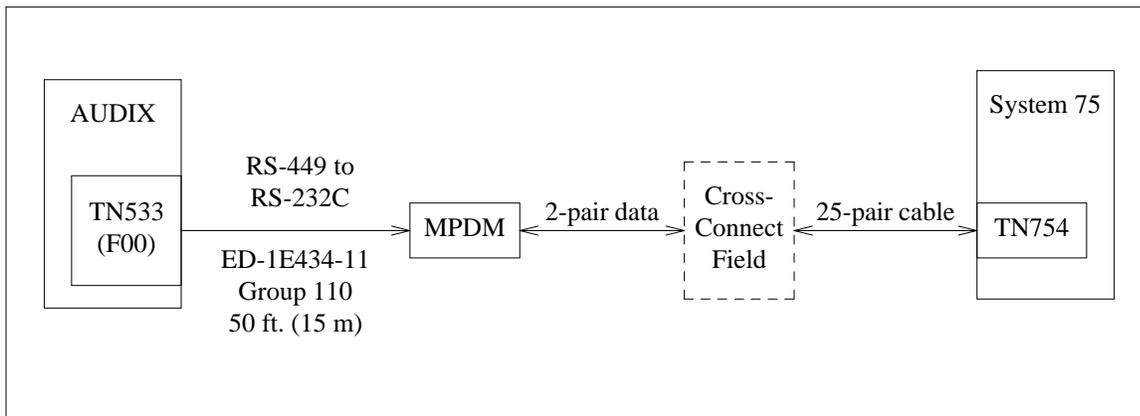
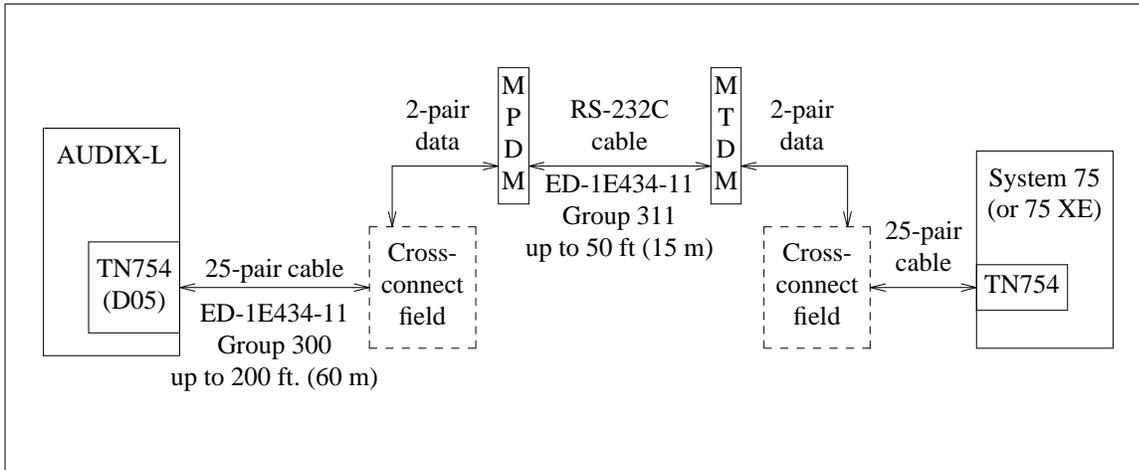

Figure 2: System 75 Data Link (Using MPDM) to AUDIX
Figure 4: System 75 (or 75 XE) Data Link (DCP Port) to AUDIX-L
- Data link connecting an AUDIX to the switch (required for all fully integrated systems). The link varies depending on the type of switch (System 75 or System 75 XE) and AUDIX model used. See figures 2, 3, and 4 for common System 75 and 75 XE setups.
SCI. A one- or two-cabinet AUDIX can connect to a System 75 SCI data link using a modular processor data module (MPDM) with an RS-232C interface card as shown in figure 2. The MPDM connects to AUDIX with an RS-449 to RS-232C cable. The RS-232C end plugs into the MPDM's 25-pin connector, and the RS-449 end connects to the AUDIX SCPI DATA connector (F00). The MPDM should be located within of 50 ft (15 m) of the AUDIX, although the cable may extend up to 100 ft (30 m) if necessary.
An AUDIX-L may be attached to a System 75 or System 75 XE SCI, as long as the switch has at least one DCP port free (the SCI has four possible data links). In this setup, an MPDM is connected to a Modular Trunk Data Module (MTDM) at the cross-connect field. These devices must be set up back-to-back using a straight-through RS-232C cable in order to isolate and correctly transmit data between the AUDIX and switch (see figure 4).
AUDIX uses BX.25 protocol for its data link. The System 75 data link (SCI or PI) presents an RS-232C interface link. Because AUDIX has an RS-449 interface, an RS-232C to RS-449 conversion must be made (see figures 2 and 3). On AUDIX-L, the DCP connector is wired through the cross-connect field to use the correct 25-pair interface to the System 75 data link (see figure 4).